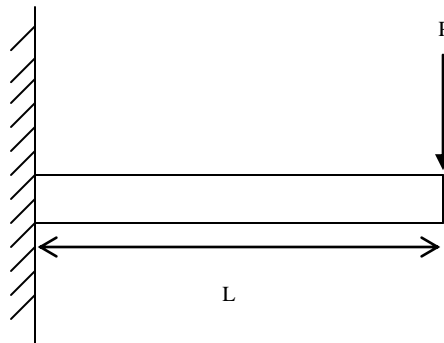

Figure 5
4. A cantilever beam is loaded as shown in Figure 5. Indicate that the maximum deflection is  $PL^3/3EI$ , where;